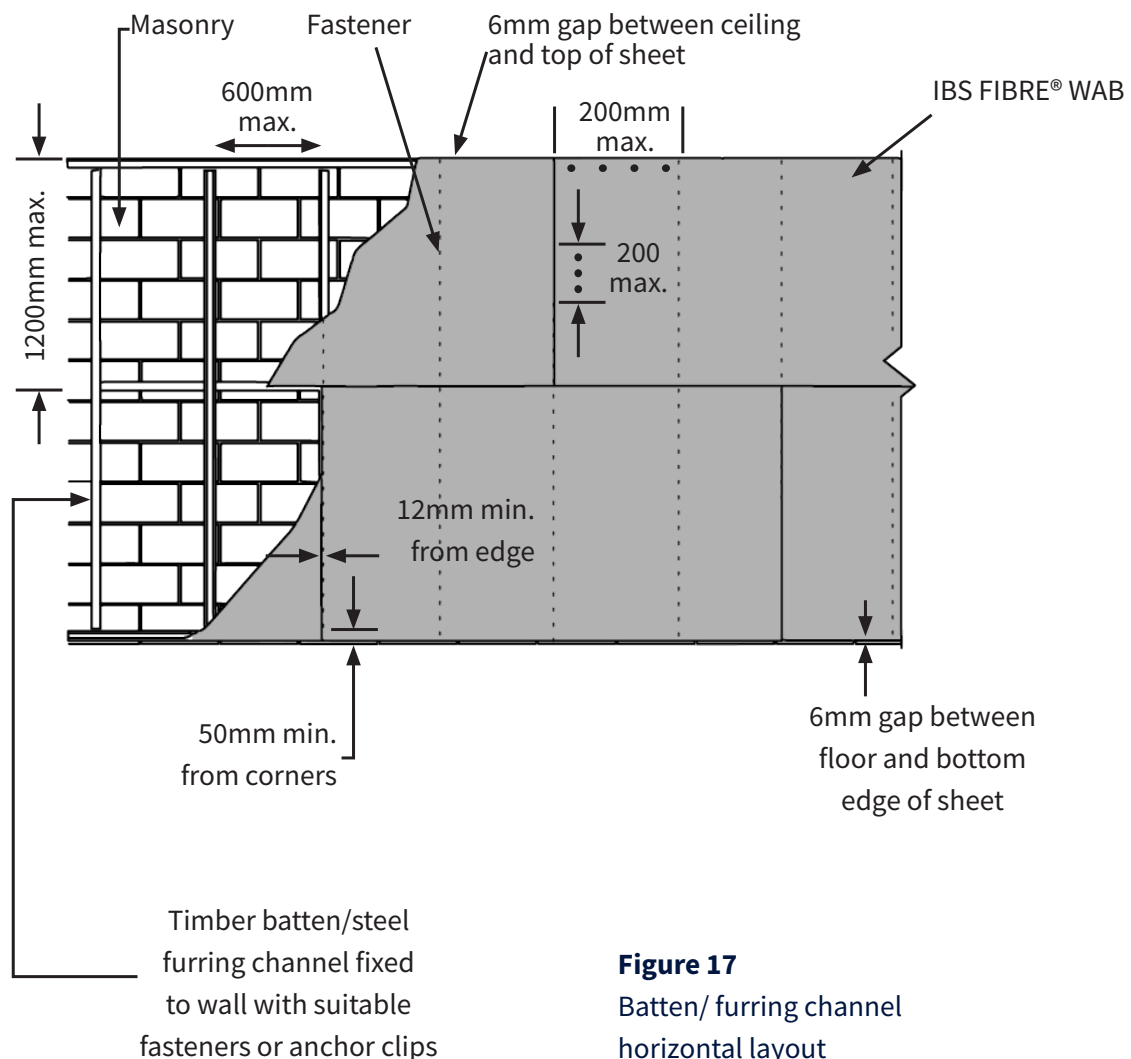

Figure 17
- Use appropriate masonry fasteners to secure timber/steel battens or recessed furring channels (see Figure 17).